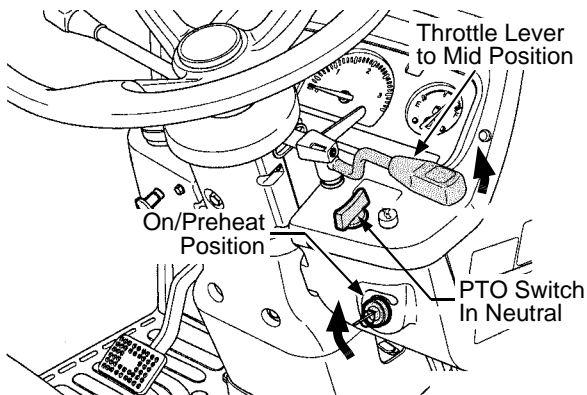

Figure 24
- Set the throttle lever in approximately the middle position (40hp). See Figure 24.
- Turn the ignition switch to the "ON/Preheat" position. Refer to Figure 24.